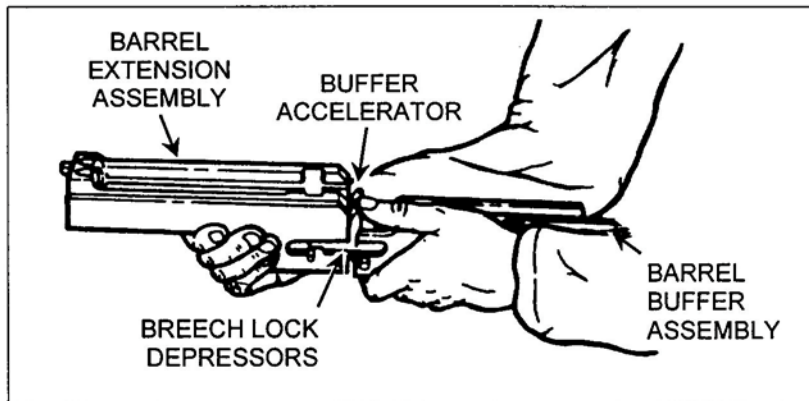

Figure 28. Attachment of the barrel buffer and barrel extension assemblies.
- (3) Hold the barrel buffer assembly with the buffer accelerator up and engage the notch on the shank of the barrel extension assembly with the cross groove in the piston rod of the barrel assembly (Figure 28).